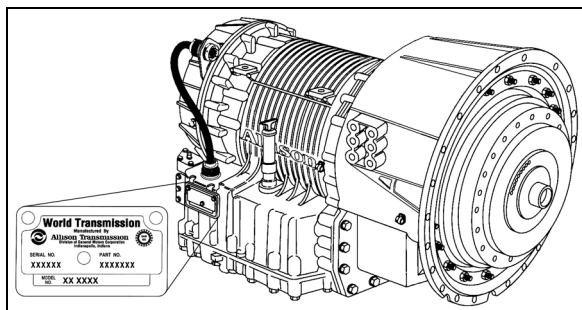

FIGURE 2: ALLISON TRANSMISSION 07076
The transmission identification plate is located on the oil level dipstick side of the transmission (WT) (Fig. 2). The identification plate shows the transmission serial number, part number (assembly number), and model number. Use all three numbers when ordering parts.